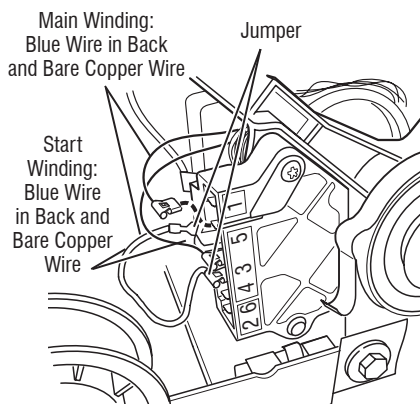

Figure 9 - Main and start winding measure points
9. Remove the bare copper wire terminal from pin 5 of black drive motor switch. See figure 9.
10. Using figure 9 and the strip circuit on page 23, check for the resistance values of the motor's Main and Start winding coils as shown in the following table.